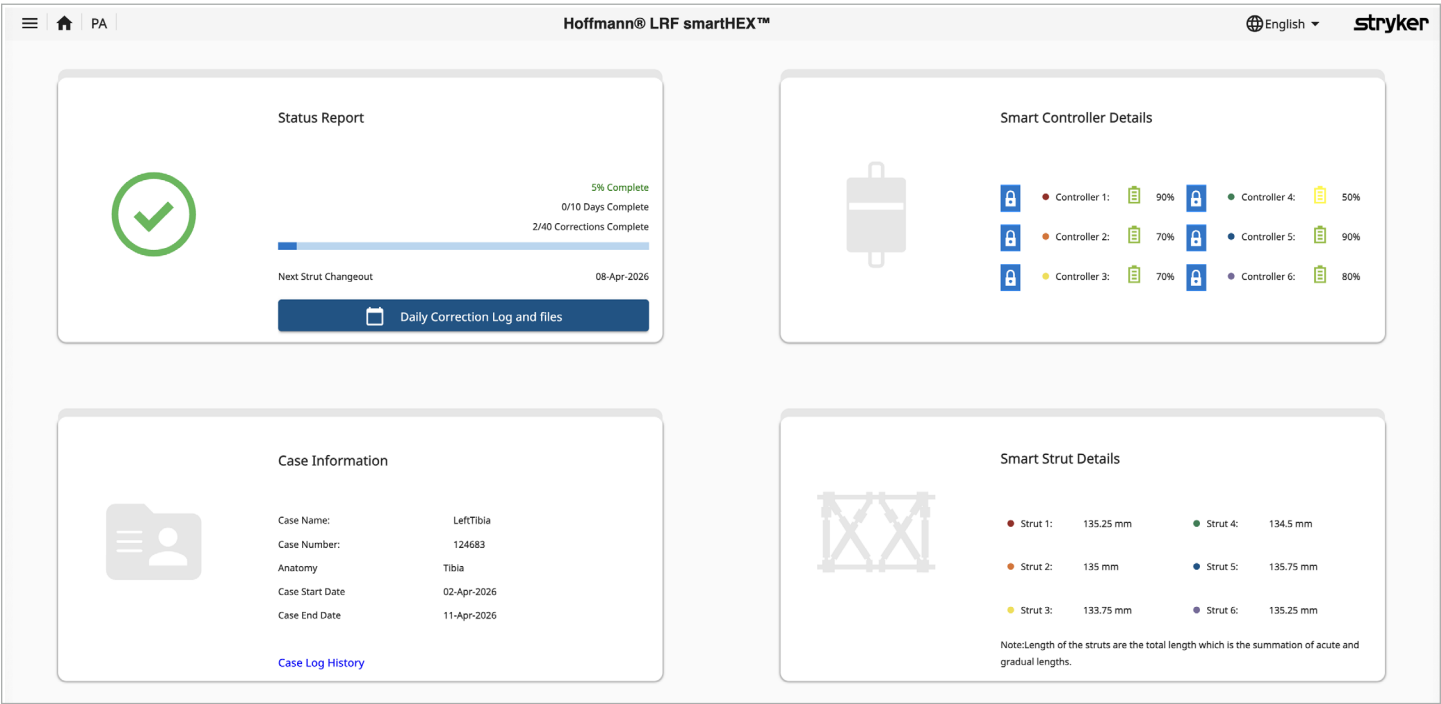

Figure 10
-  **Case status:** Displays additional information including Correction Plan Duration (days), Current Day, Next Strut Change Date, Controller Battery Life (Max/Min), and a link for a Detailed Status Report. **(Figure 10)**